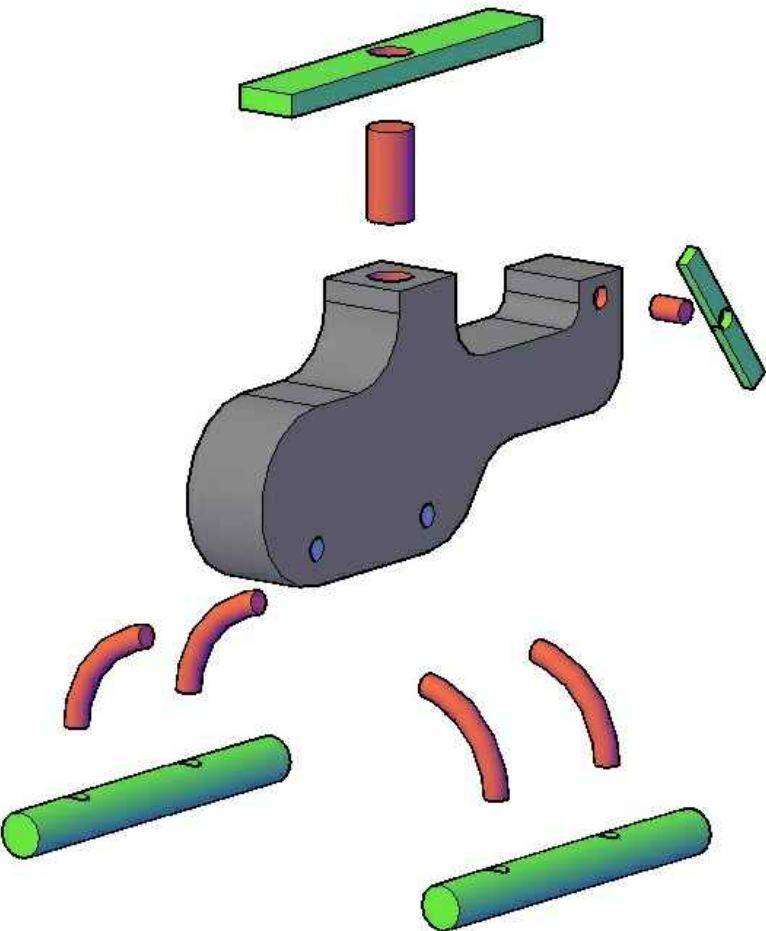

Fig. 1
Fig. 1 shows the pictorial drawing of a reservoir. The central part of this reservoir is composed of two cylinders intersecting each other perpendicularly. In the Orthographic projection below, the complete **End** elevation, the **Plan**, and an **incomplete Front** elevation are given.
Fig. 1 shows an exploded pictorial view of a toy helicopter.
Fig. 1 shows a Christmas decoration ball suspended from a ceiling by 4 pieces of wire. These pieces have been cut from a single piece of string. The **Horizontal Plane (HP)** and the **Vertical Plane (VP)** of the whole setup are given below.